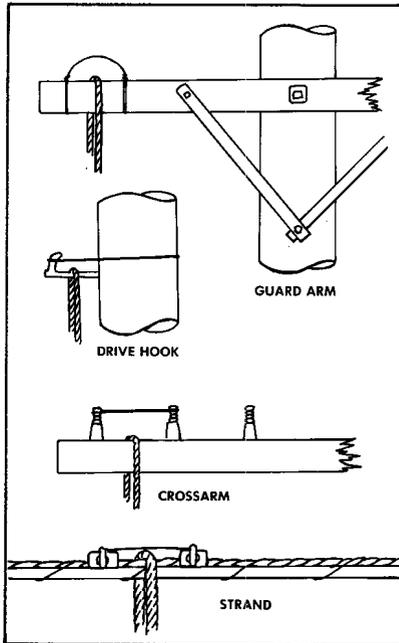

FIGURE 1. Temporary Guide Loop—Pole
2.08 If conditions could cause the handline or the drop wire to which it is attached to become disengaged from a drive hook, crossarm, or to slide along the strand or guard arm while the work is being done, enclose the handline or drop wire with a temporary guide loop. This loop consists of a short length of wire or rope placed over the handline or drop wire, with the ends of the guide securely tied in the following manner (Figure 1):
b. Attach a temporary guide loop to the attachment to prevent the drop wire from becoming accidentally disengaged during the placing operation. See Figures 1 and 9.